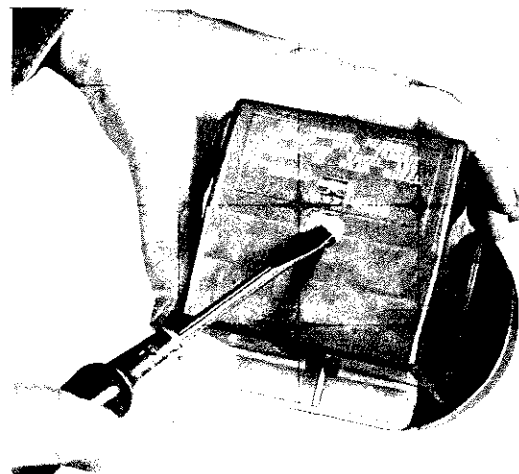

Fig. 2—Adjusting the Floor Level Compensator in the Aimers
(3) Turn the dial on one side of the transit until the bubble in the spirit level is centered.
(4) When the bubble is centered, note "plus" or "minus" reading on the compensator scale. This figure indicates the degree of slope of the floor and must be transferred to each aimer as follows:
(5) With a screwdriver, turn the adjusting slot of the floor level compensator in each aimer, until the correct plus or minus figure (or fractional part) appears in the proper window (Fig. 2).